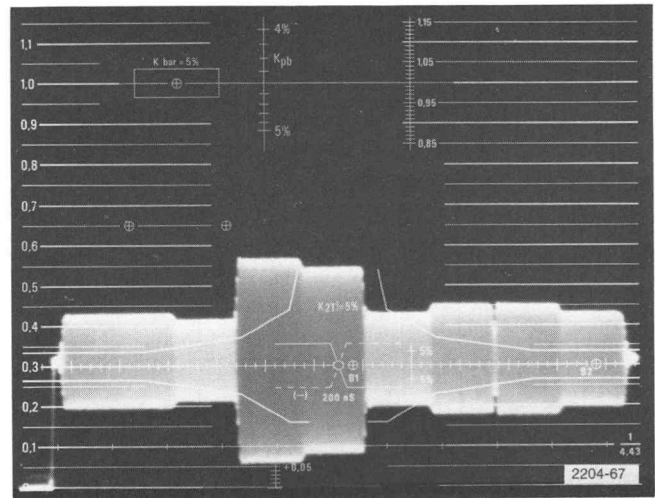

Fig. 6-20. Color Bar signal with no Pre-emphasis.
c. CHECK—that the display loses the overshoot at transitions. See Fig. 6-20.